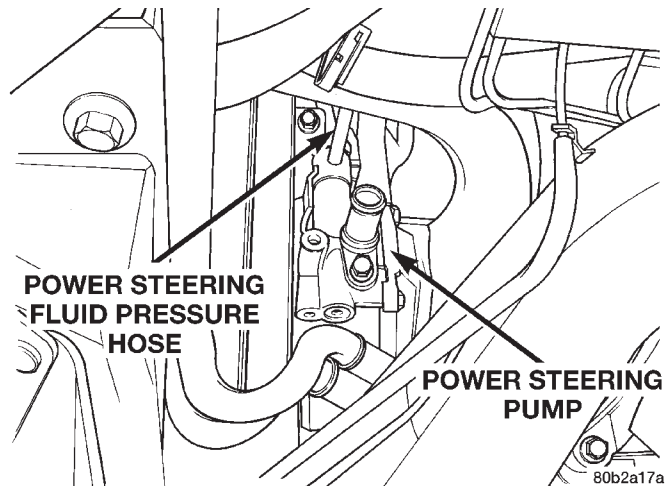
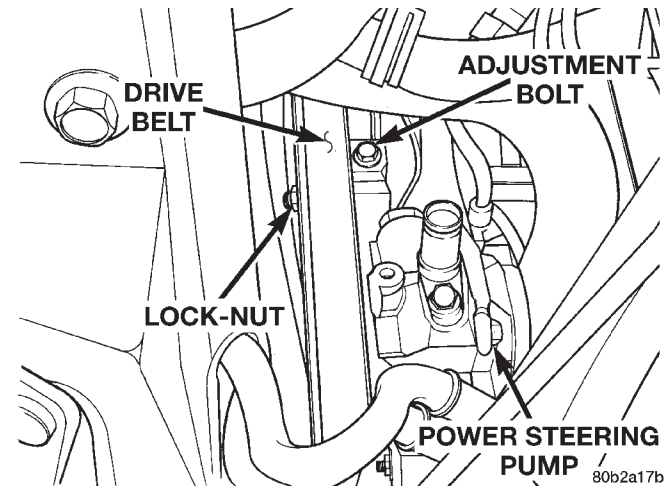
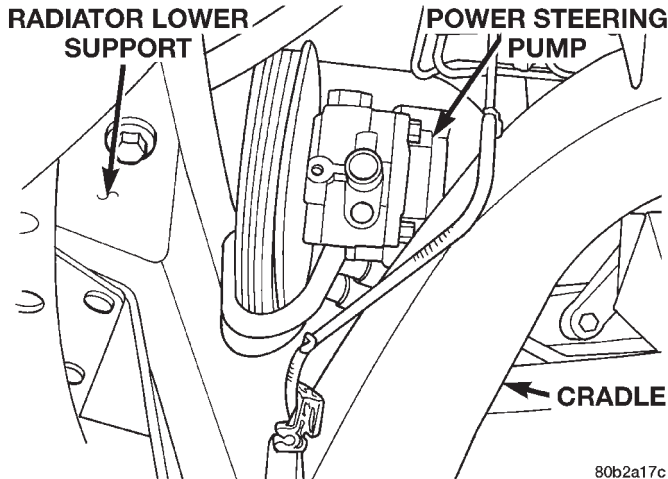

Fig. 10 Pressure Hose At Power Steering Pump
Fig. 11 Drive Belt Tensioner Lock-Nut And Adjustment Bolt
Fig. 12 Power Steering Pump Remove/Install
- (5) Let power steering fluid drain from the power steering fluid reservoir and power steering pump.
- (6) Install a cap on the open nipple of the power steering fluid reservoir to prevent power steering fluid from spilling when removing the power steering pump.
- (7) Remove the power steering fluid pressure hose (Fig. 10) from the pressure fitting on the power steering pump.
- (8) Let remaining power steering fluid drain from the power steering pump.
- (9) Remove the wiring harness connector from the power steering pressure switch located on the side of the power steering pump.
- (10) Loosen the lock-nut (Fig. 11) on the front of the pulley for the serpentine drive belt tensioner.
- (11) Using the adjustment bolt (Fig. 11) remove the tension from the drive belt for the power steering pump.
- (12) Remove the drive belt from the power steering pump pulley.
- (13) Remove the 3 bolts attaching the power steering pump to the power steering pump mounting bracket.
- (14) Remove the power steering pump from the engine. The power steering pump and pulley are removed as an assembly from the engine. The power steering pump is removed from the bottom of the engine between the radiator lower support and the cradle (Fig. 12).
- (15) Transfer the required parts from the removed power steering pump to the replacement power steer-
- (1) Install the power steering pump back in the mounting bracket using the reverse sequence of its removal (Fig. 12).
- (2) Loosely install all 3 bolts mounting the power steering pump to the mounting bracket.
- (3) Tighten the power steering pump mounting bolts to a torque of 28 N·m (250 in. lbs.).
- (4) Install the drive belt on the power steering pump pulley. Refer to Cooling, Group 7, for required installation and tensioning procedure.
- (5) Securely tighten the lock-nut on the pulley of the drive belt tensioner (Fig. 11).
- (6) Install the wiring harness connector on the power steering pressure switch.
- (7) Install the power steering pressure hose on the pressure fitting of the power steering pump (Fig. 10). Tighten the power steering fluid pressure hose tube nut to a torque of 47 N·m (35 ft. lbs.).